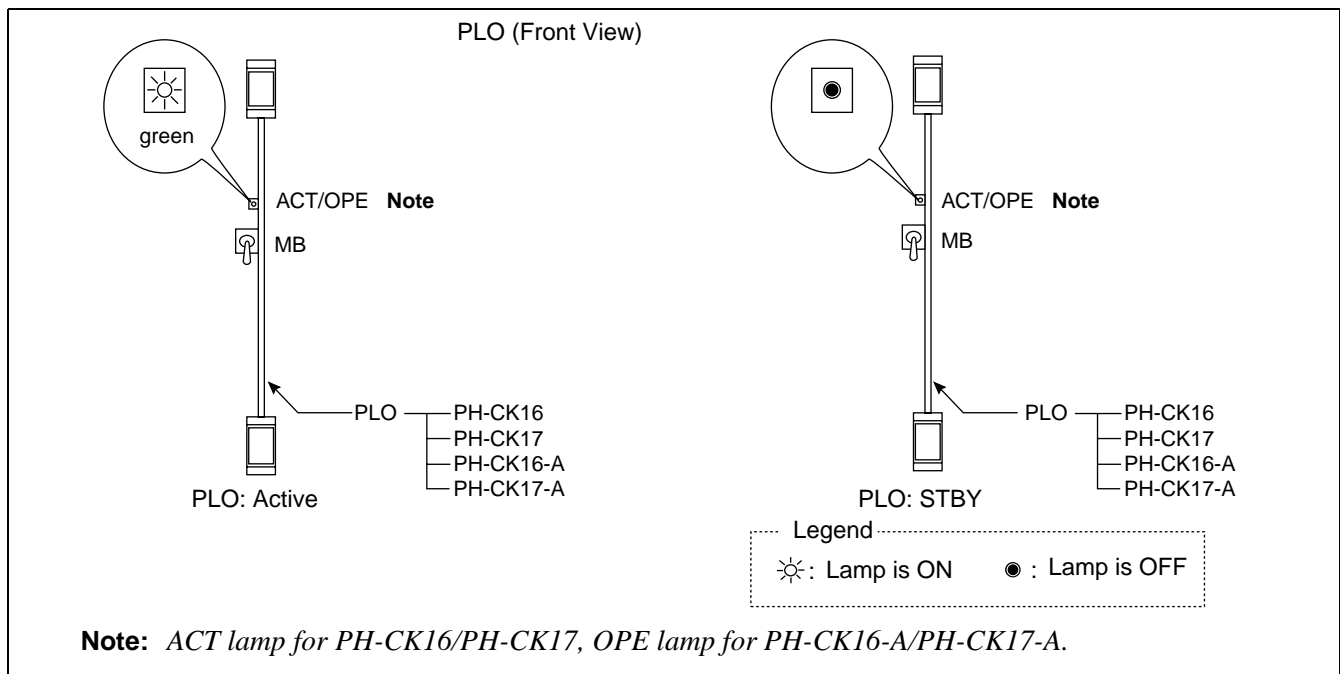

Figure 6-54 PLO in ACT/STBY Mode
- (1) When the PLO system is active, ACT or OPE lamp on the PLO card lights green. If the LED is OFF, the system is STBY mode.
- (2) Check the mate PLO's STBY mode. Refer to Figure 6-54.